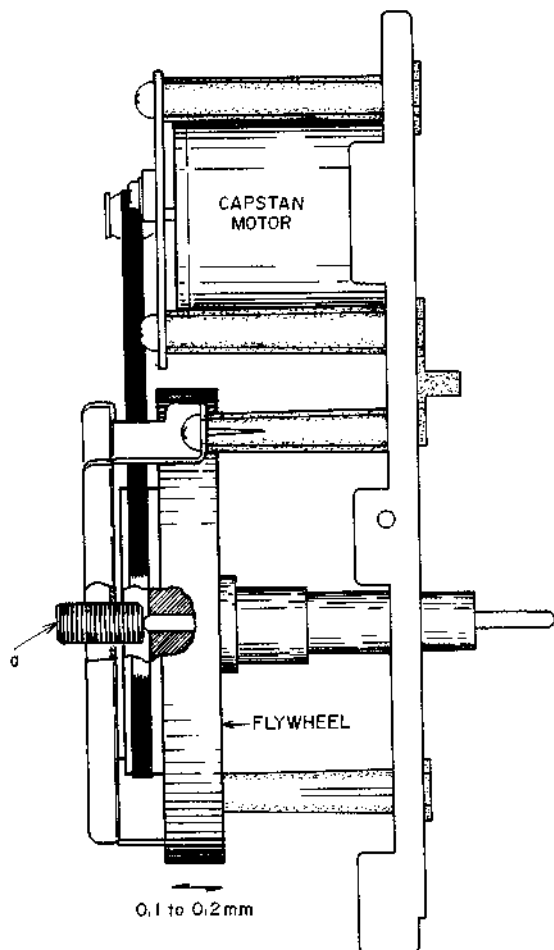

Fig. 5
1. Flywheel Loose Play Adjustment (Refer to Fig. 5)